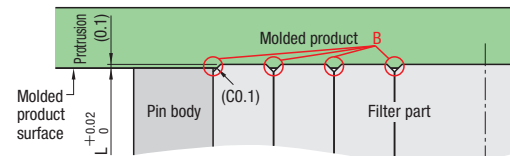
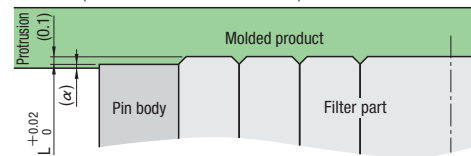

Fig. 4: When protruding from molded product surface
Fig. 5: When total length (L) embedded
In products where the filter only protrudes slightly, there is a possibility the molded product surface to be affected. Resin will project out from the molded product surface on the C plane ("B" in Fig. 4).
The total pin length (L) is embedded into the molded product surface by a value " α ", resulting in the part protruding out from the molded product surface disappearing as shown in Fig. 4 (Fig. 5).